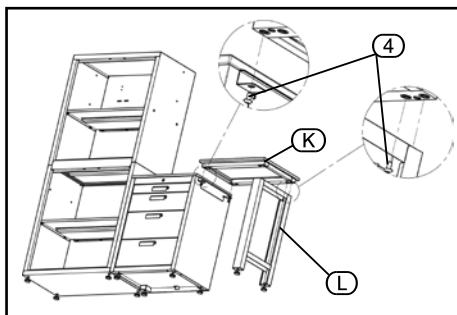

FIG. 8
8.7 INSTALLING THE WORK BENCH – FIG. 8